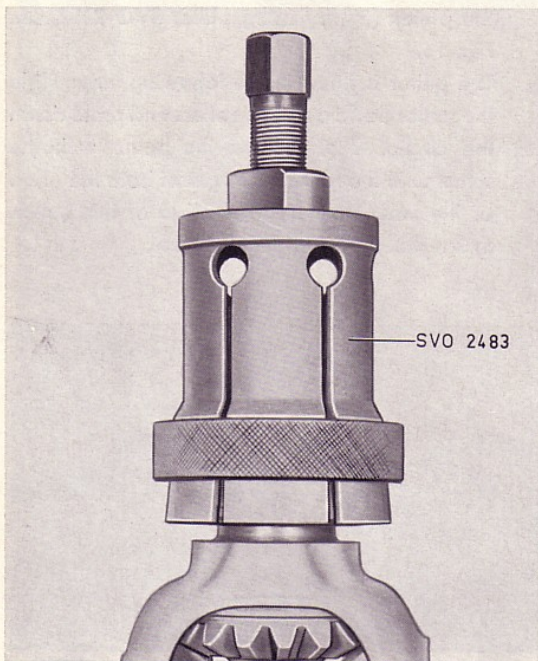

Fig. 16. Removing the differential carrier bearings.
3. Pull off the differential carrier bearings (1) with puller SVO 2483, see Fig. 16. Do not lose the shims (3).